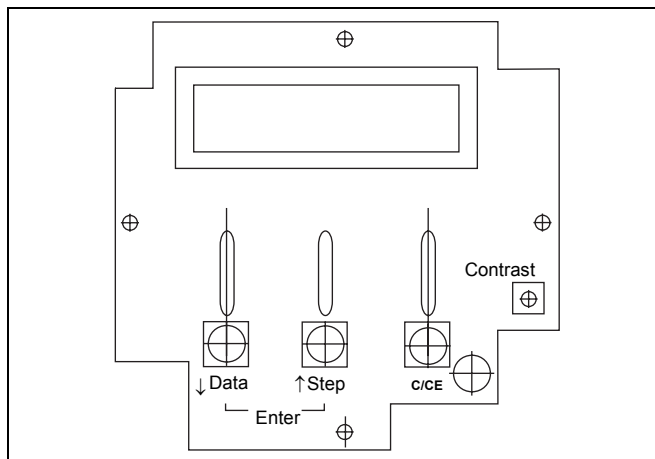

Fig. 7 Display Board with Entry Keypad and Contrast Adjustment
- Check the contrast setting of the display. A small screw-driver can be used to adjust the "Contrast" potentiometer to the ambient conditions. Field Mount Housing design see Fig. 7.